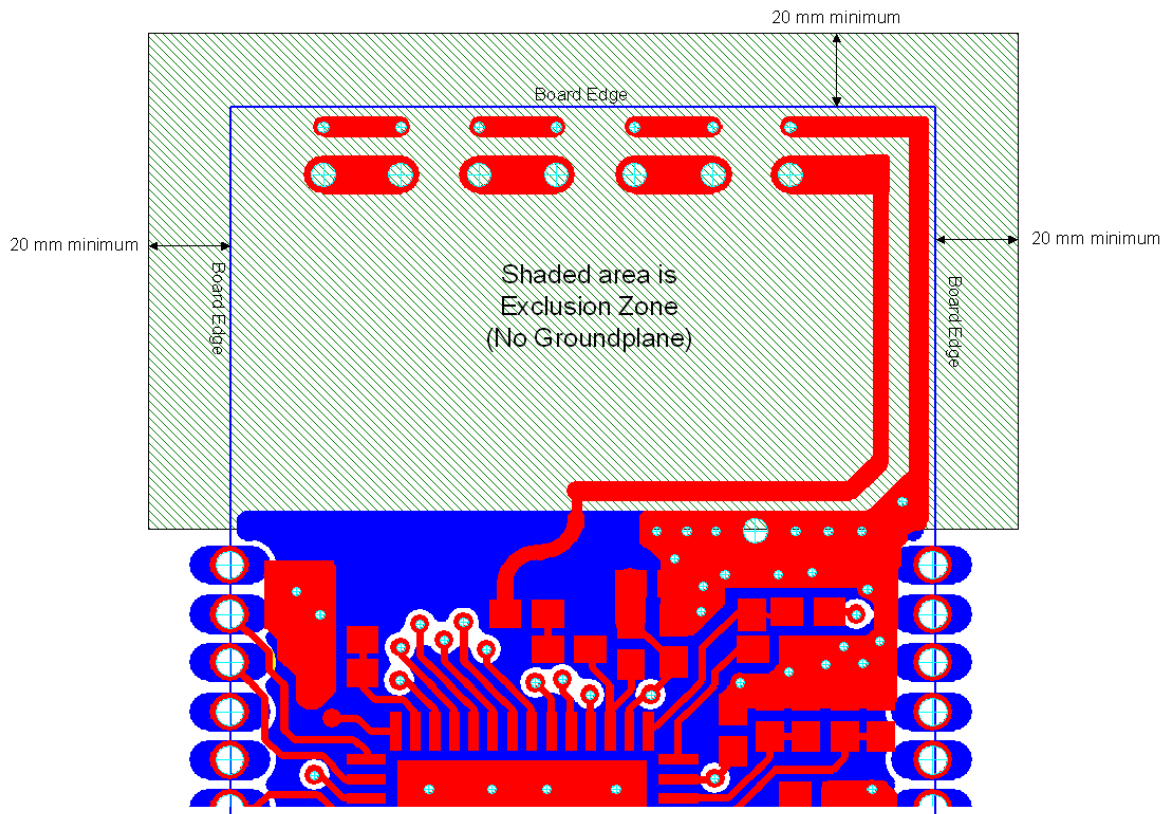

Figure 10: Antenna Clearance Recommendations
- In the case of DR1111, the ground planes on all layers stop BEFORE the antenna, so that the performance of the antenna is not affected. The recommended antenna clearance for the PCB antenna is shown in Figure 10 below. Note that this clearance should be maintained when mounting the module on a motherboard.